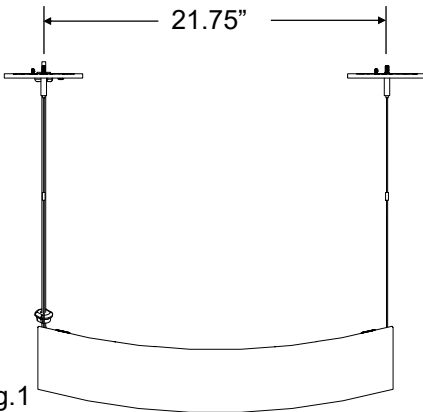

Fig.1
3. Install Aircraft Cable using dimensions in Fig.1